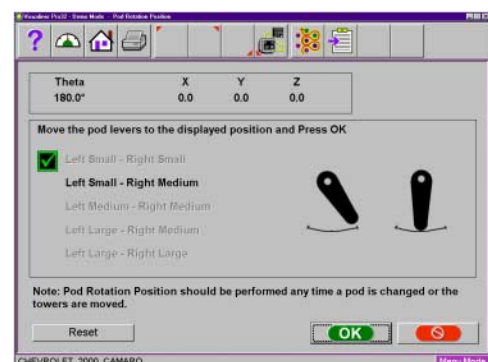

Figure 25
3. After clicking on “OK” as indicated in step 2, the camera rotation levers change positions. Move the camera levers to the position shown and click on <OK>. (Figure 25)